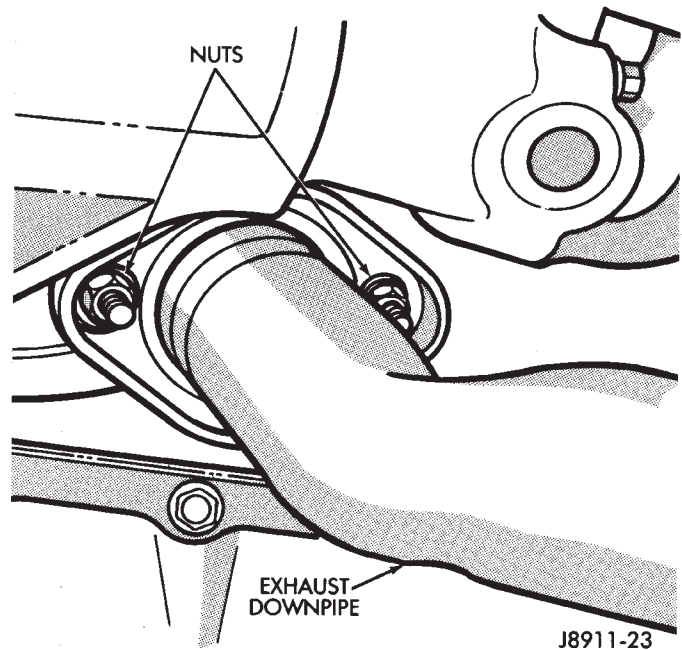

Fig. 4 Exhaust Pipe-to-Engine Exhaust Manifold Nuts
(1) Raise and support the vehicle.
(2) Saturate the bolts and nuts with heat valve lubricant (Fig. 4). Allow 5 minutes for penetration.